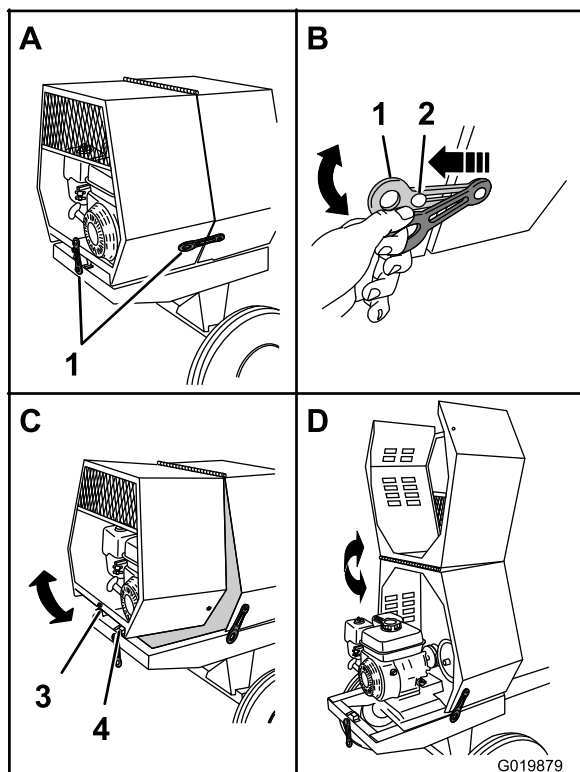

Figure 31
1. At the side of the machine where the front cowl and rear cowl meet, grasp the ring of the latch and pull it off from the latch anchor on the rear cowl (Figure 31).
3. At the back of the machine where the rear cowl meets the frame of the machine, grasp the ring of the latch and pull it off from the latch anchor on the cowl (Figure 31).
4. Rotate the rear cowl up and forward until it is fully positioned on top of the front cowl (Figure 31).
1. Rotate the rear cowl rearward and down until the receiver at the bottom center of the cowl is aligned with the V-fitting and flush on the frame of the machine (Figure 31).
4. Repeat step 3 on the opposite side of the machine (Figure 31).